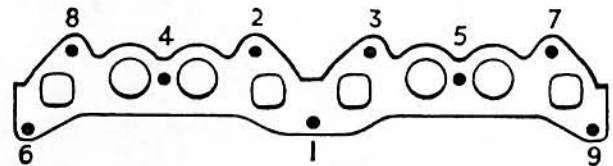

FIG. 123
1. Refit manifolds with gaskets, inlet manifold first, and tighten nuts as shown in Fig. 123. Refit exhaust pipe with new gasket.